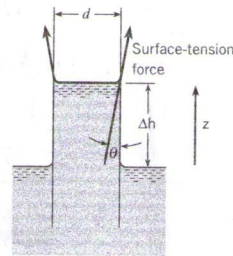

Figure 2.7
To what height above the reservoir level will water (at 20°C) rise in a glass tube, such as that shown in Fig. 2.7, if the inside diameter of the tube is 1.6 mm?
**Sketch:** See Figure 2.7.